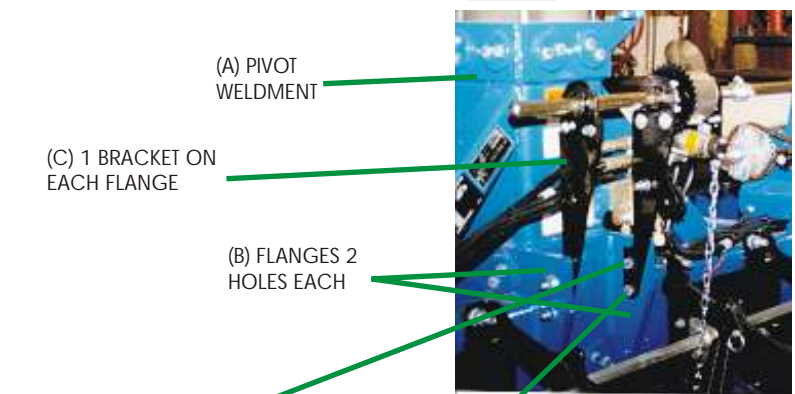

FIG 4
- (A) BOLT TO TOOLBAR JUST TO THE RIGHT OF THE WHEEL TOWER
- 4 IN THE CENTER OF THE PLANTER YOU WILL FIND THE MAIN PIVOT WELDMENT. *FIG 4-A*. EACH OF THE FLANGES HAS 2 HOLES IN THEM. *FIG 4-B*. BOLT 1 SUPPLIED BEARING SUPPORT TO EACH FLANGE. *FIG 4-C*. USE THE 1/2 BOLTS AND STEEL BUSHINGS SUPPLIED. *FIG 4-D*